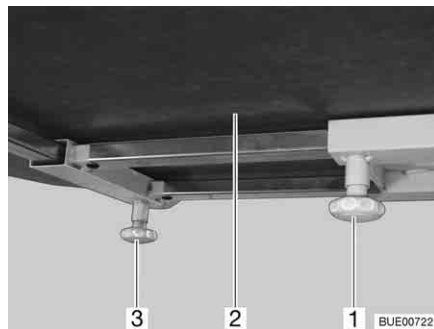

Fig. 95 Fixed table
- Loosen knurled screw (Fig. 95,1).
- Move table-top (Fig. 95,2) to the desired position.
- Loosen knurled screw (Fig. 95,3).